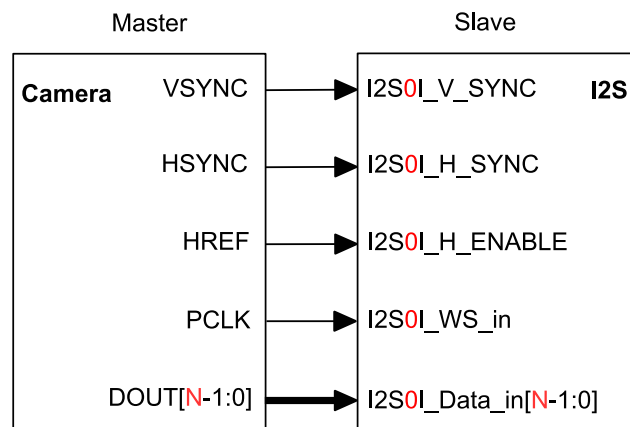

Figure 26-15. Camera Slave Receiving Mode
ESP32-S2 I2S can be configured as camera slave receiving mode for high-speed data transfer with external camera modules. In this mode, I2S module works as slave receiver with a 16-channel data signal bus `I2S_OI_Data_in[15:0]`, and three more signals: `I2S_OI_H_SYNC`, `I2S_OI_V_SYNC`, and `I2S_OI_H_ENABLE`, see Figure 26-15.
2. Configure signal pins according to Table 152 and Figure 26-15.